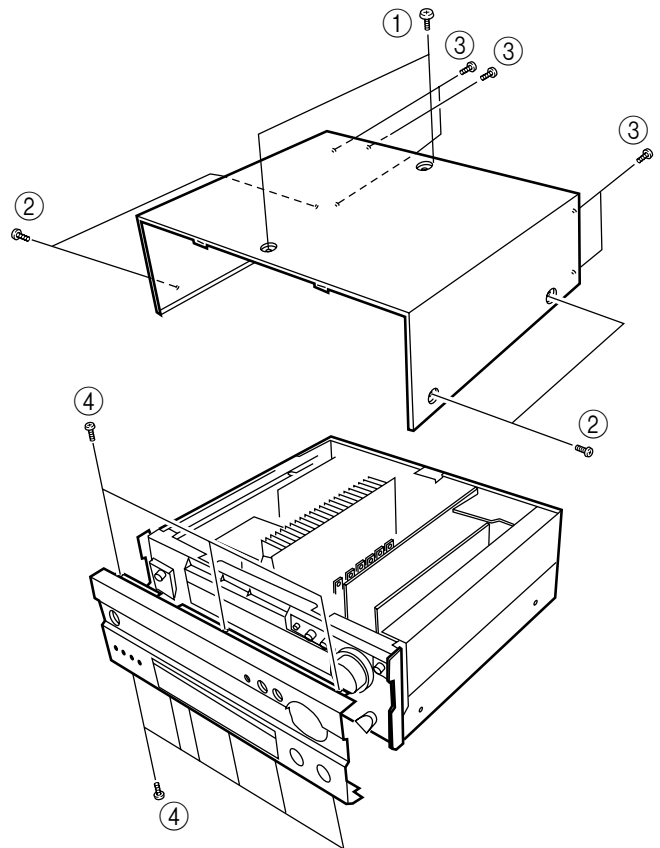
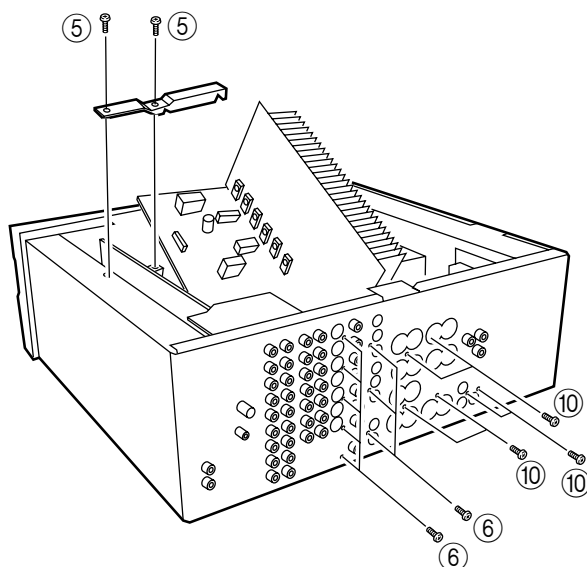

Fig. 1
Fig. 3
- a. Remove 2 screws (①), 4 screws (②) and 5 screws (③) in Fig. 1.
Remove 9 screws (④) in Fig. 1, and the Front Panel can be removed forward.
3. Removal of MAIN PCB (1)
- b. Remove 2 screws (⑤) in Fig. 3 AND remove the support metal plate.
- d. Remove 8 screws (⑥) in Fig. 3, and the VIDEO PCB (1) and VIDEO PCB (3) can be removed.
- j. Remove 6 screws (⑩) in Fig. 3.
- k. Pull out the MAIN PCB (1) forward as shown in Fig. 3. At this time, disconnect the flexible flat cable connected to the MAIN PCB (1) if necessary.